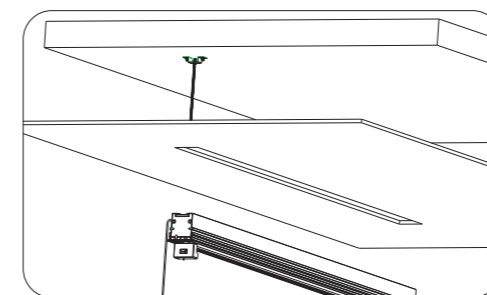

Figure11
- 2) Loose the screws of power box and take out the power box (note: the power box must be buttoned on the hanger of bracket according to figure 11, please put up and move back the power box to take out), because the power cord has a limit, please do not draw it strongly.